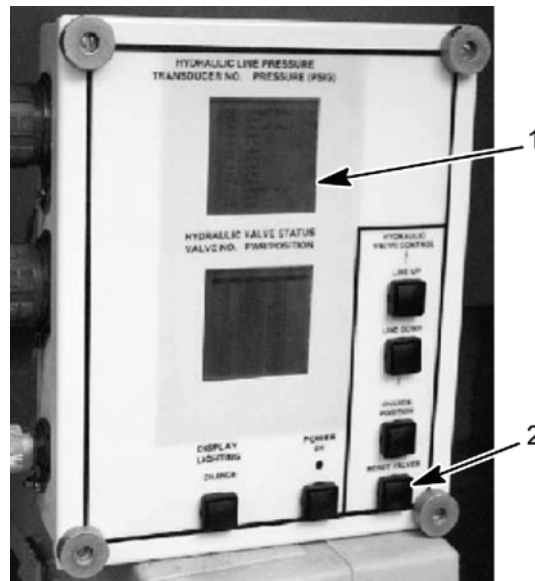

Figure 9. HDC Control Box
- Reset all HDC solenoid valves by selecting the RESET VALVES button (Figure 9, item 2) on the HDC control box.
- Start engine; read transducer T-7 hydraulic pressure on the HDC display (Figure 9, item 1).